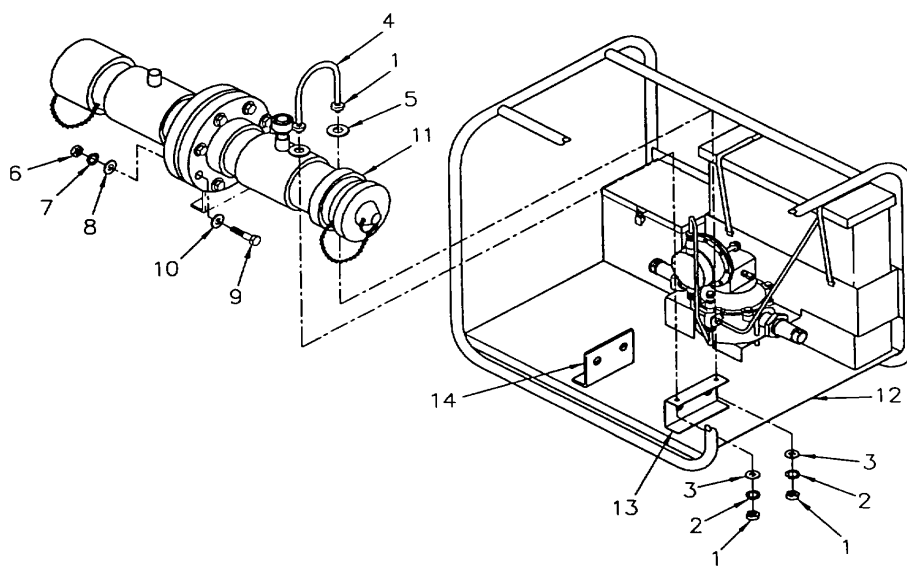

Figure 4-5. Manifold Assembly
(1) Position manifold assembly (11, Figure 4-5) onto brackets (13 and 14).
(2) Install two flat washers (10), two capscrews (9), two flat washers (8), two lockwashers (7) and two hex nuts (6). Hand tighten.
- (4) Install two flat washers (5, Figure 4-5) and one U-bolt (4).
- (5) Install two flat washers (3), two lockwashers (2), and two hex nuts (1).
- (6) Install inlet pipe assembly (refer to para 4.16) and outlet pipe assembly (refer to para 4.17).